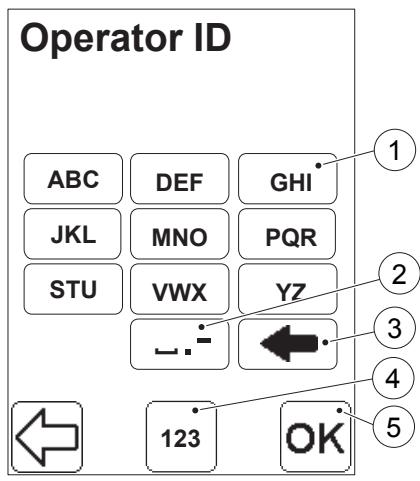
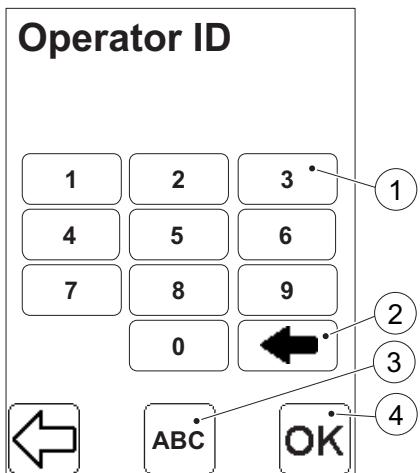

FIGURE 2-20
FIGURE 2-21
- a) Press the Text mode button (1) or the Numeric mode button (2) depending on if the first character that is to be entered is a letter or a digit.
- b) Depending on the mode chosen, follow the description for FIGURE 2-20 or FIGURE 2-21.
- a) In the text mode, inputs are made using the Letter buttons (1) and the Special Character button (2).
- b) The Erase button (3) erases the last input.
- c) If a digit is to be entered, switch to the numeric input mode by pressing the Numeric mode button (4). *FIGURE 2-21* will be displayed.
- d) When all information has been entered, press the Confirm button (5).
- In the numeric mode, inputs are made using the Digit buttons (1).
- The Erase button (2) erases the last input.
- If a letter or a special character is to be entered, switch to the text input mode by pressing the Text mode button (3). *FIGURE 2-20* will be displayed.
- When all information has been entered, press the Confirm button (4).